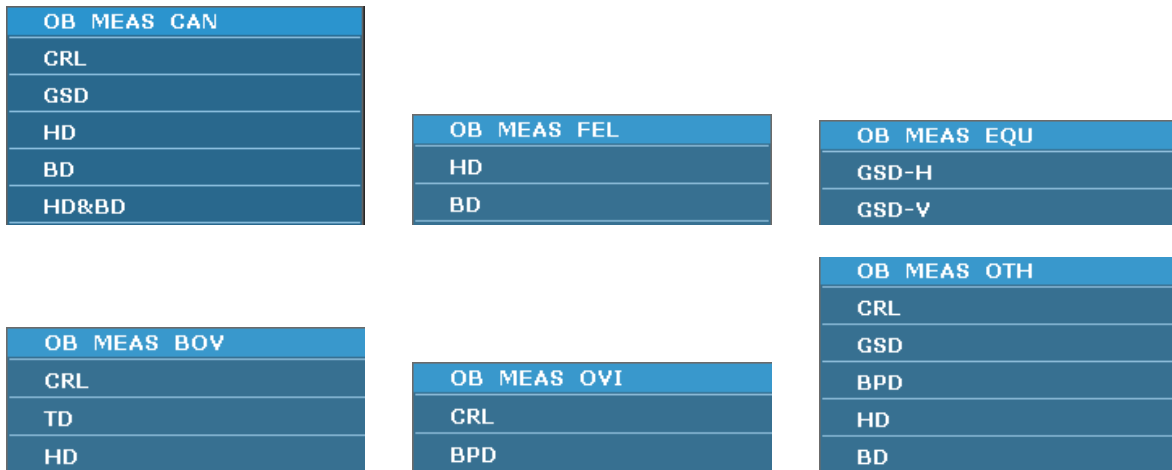

Figure 9-1 Obstetrics Measurement and Calculation Menu
- 3 Press **Measure** to activate the application measurement function. The system displays the measurement menu as shown in *Figure 9-1*.